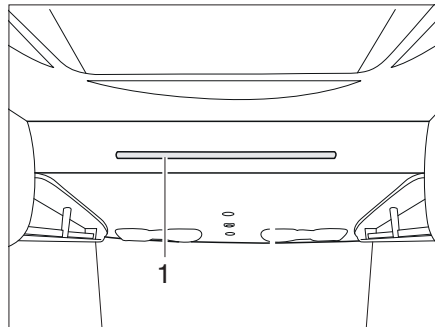

Fig. 153 Manual pull-down bed
- Pull the handle lever (Fig. 153,1) downwards in order to unlock the pull-down bed.
Attaching: ■ Hook the access ladder to the pull-down bed by attaching both brackets into the bar (Fig. 153,1).